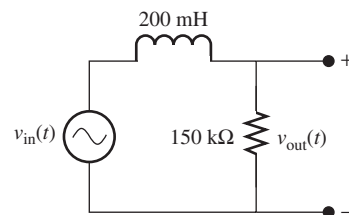

FIGURE P7.47 Circuit for Problem 7.47.
- 7.47** (B) Given the circuit in Figure P7.47, with an AC voltage source (Amplitude 12 V), use PSpice to sketch the Bode plot of $v_{out}(t)$.